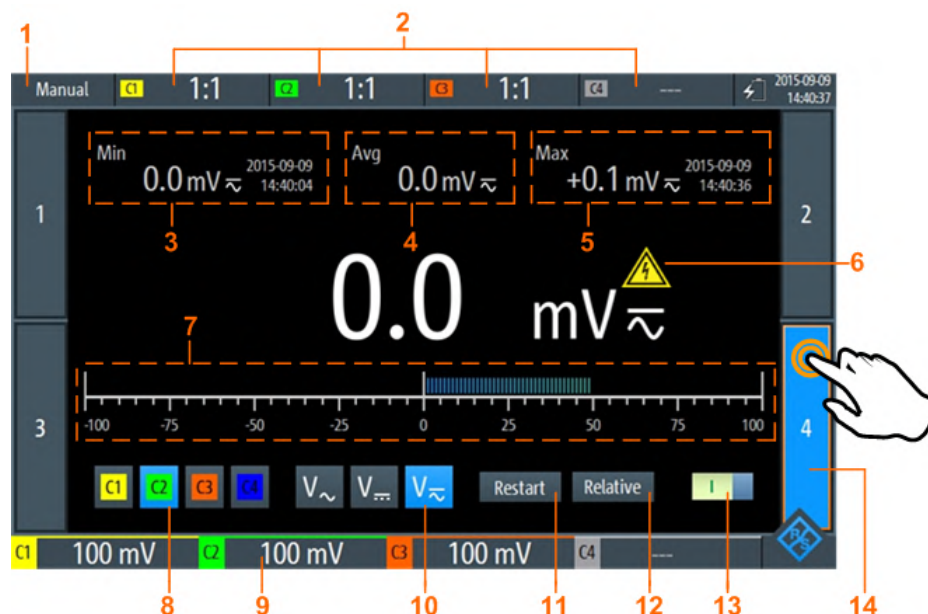

**Figure 7-4: One-voltmeter-view**
- Tap the highlighted number of the opened voltmeter as shown in Figure 7-4.
3. Select the channel to be measured (no. 8 in Figure 7-4).